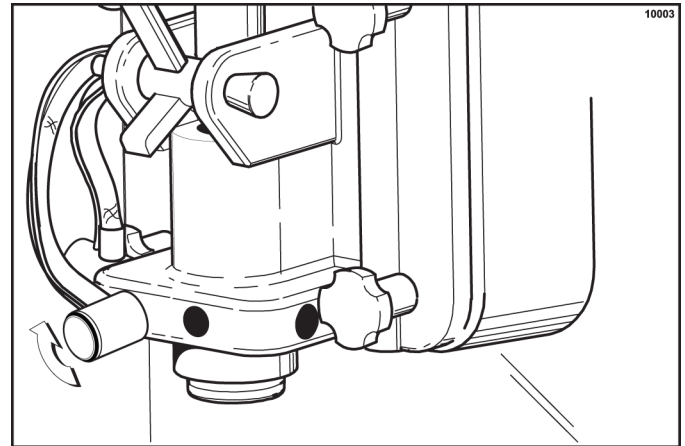

Figure 6-67
6. Attach the syrup lines to the freezer door. Insert the syrup line fitting into the syrup port in the freezer door. The flat side of the syrup line fitting must be aligned with the pin in the syrup port. Rotate the syrup line fitting upward to lock in place. (See Figure 6-67.)